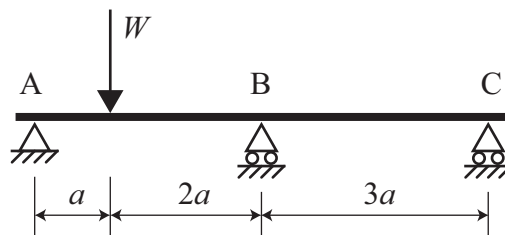

Figure 7
- † 7. Figure 7 shows a uniform beam simply supported at three points, A , B and C . Find the value of the load, W , for plastic collapse to occur, given that the fully plastic moment is M_p . The support at C provides total restraint to vertical movement: is this a relevant consideration? Does the length of the span, BC , affect the limiting value of W ?